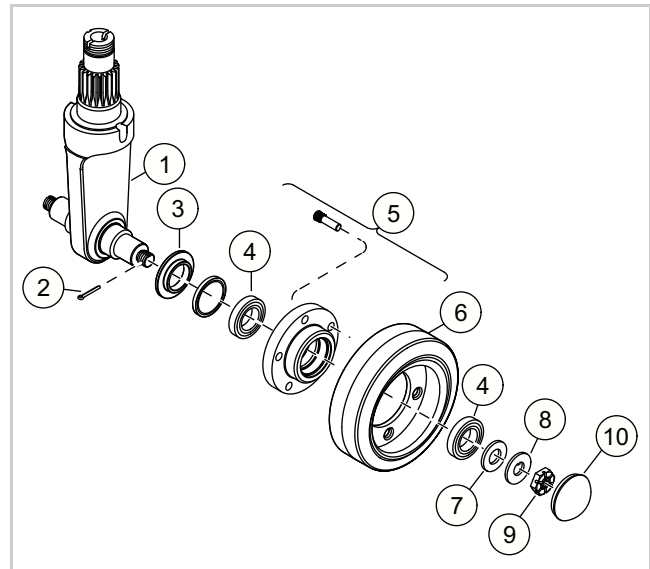

Fig. 13 (30018)
1. See Figure 13. Before you assemble the hub (5), pack the bearings (4), and fill the hub bearing cavities with grease (063002-034).